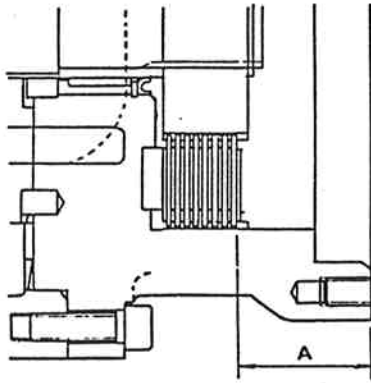

Fig.12 Checking Dimension A
- 13) Insert brake shims (44) to the spline section of coupling (37) and valve cover
(14). Alternately insert separator plate (45) and friction plate (46). In this case, do not change order or the number of plates. Measure dimension A from the end face of the valve cover to the friction plate (see Figure 12), and adjust the brake brake shims so that dimension A becomes the specified value shown in Table 9.